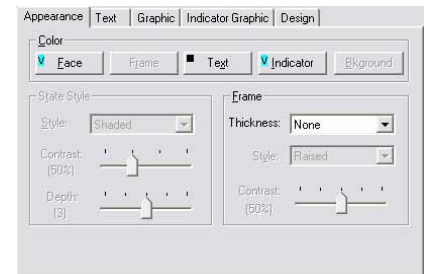

Figure 4a
- a. Switch to the Appearance tab (Figure 4a)